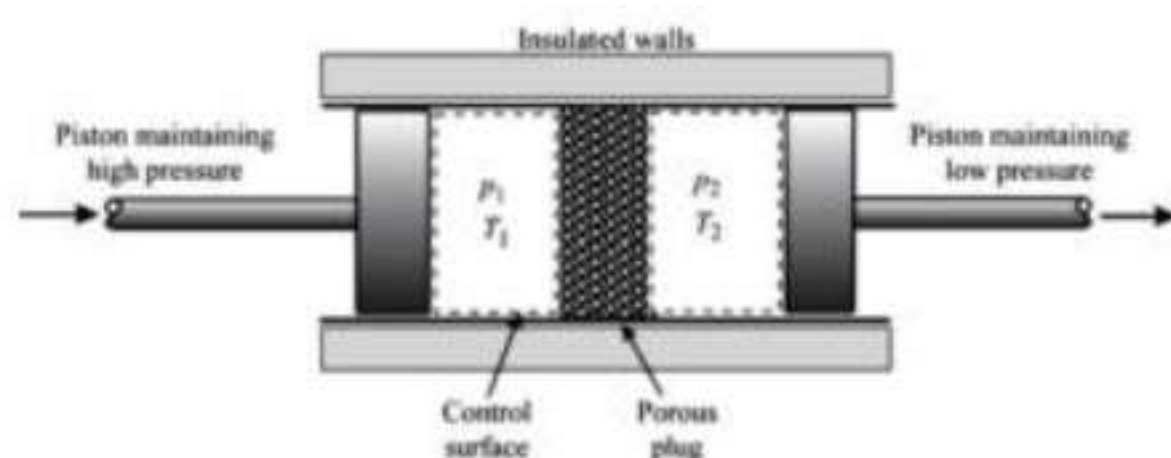

Figure 4.10: Porous-Plug Experiment
**Experimental Results:** A simple arrangement of porous plug experiment is shown in fig. 4.10. The behavior of large number of gases was studied at various inlet temperatures of the gas and the results are as follows: